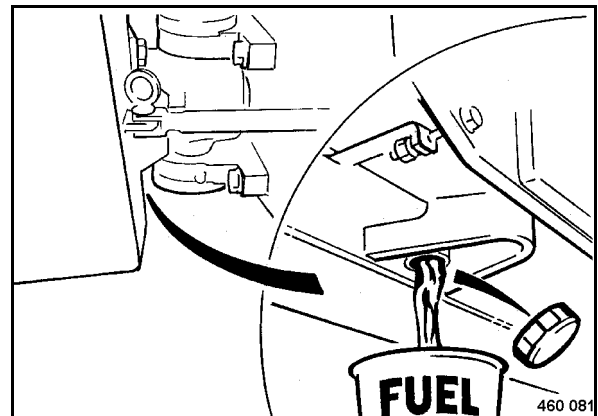

Fig. 114
- Unscrew the screw cap (Fig. 114) under the fuel tank and drain the fuel out.